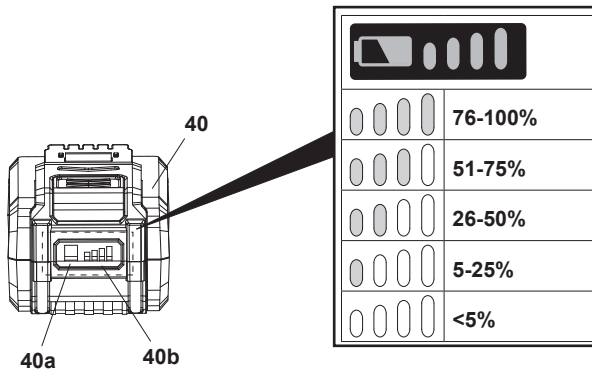

Fig. 23
The battery pack (40) is equipped with the battery capacity indicators (40b) which are used to give an indication of the battery pack's remaining capacity. Press the battery capacity button (40a) to check battery capacity (Fig. 23). The LEDs will stay lit for approximately 3 seconds.